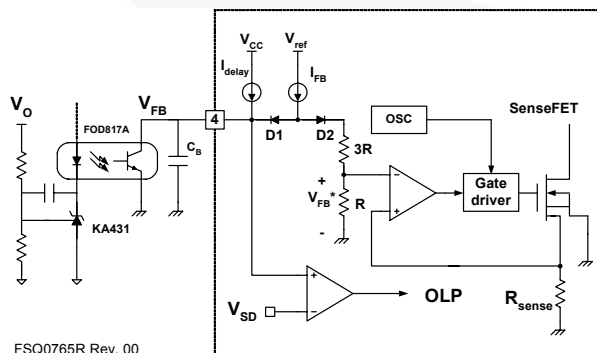

Figure 32. Pulse-Width-Modulation (PWM) Circuit
**6. Burst Operation:** To minimize power dissipation in standby mode, the FPS enters burst-mode operation. As the load decreases, the feedback voltage decreases. As shown in Figure 32, the device automatically enters burst-mode when the feedback voltage drops below  $V_{BURL}$  (350mV). At this point, switching stops and the output voltages start to drop at a rate dependent on standby current load. This causes the feedback voltage to rise. Once it passes  $V_{BURH}$  (550mV), switching resumes. The feedback voltage then falls and the process repeats. Burst-mode operation alternately enables and disables switching of the power SenseFET, thereby reducing switching loss in standby mode.